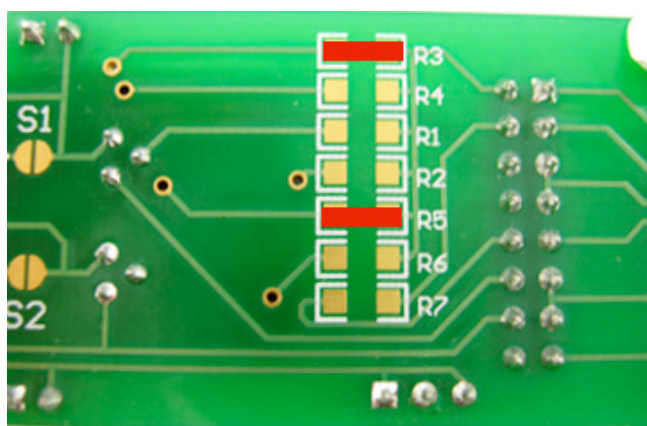

Figure 5. DS9120P Modification for DS2411P+
- c) Note that when evaluating a DS2411P device, is necessary to place a jumper to 3.3V and a wire must be soldered to jump R3 and R5. See Figure 5.